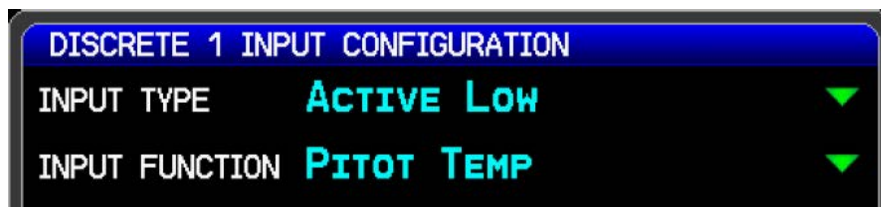

Figure H-40 Configuration #3
3. The discrete input configuration shown in Figure H-40 will result in a yellow "PITOT TEMP" alert that will appear on the PFD similar to Configuration #2, with additional logic that automatically prevents the yellow "PITOT TEMP" alert from appearing if the outside air temperature is above approximately 5° C (41° F). This configuration provides the same indication as Configuration #2, but hides the pitot temperature alert when flying in warmer weather conditions.